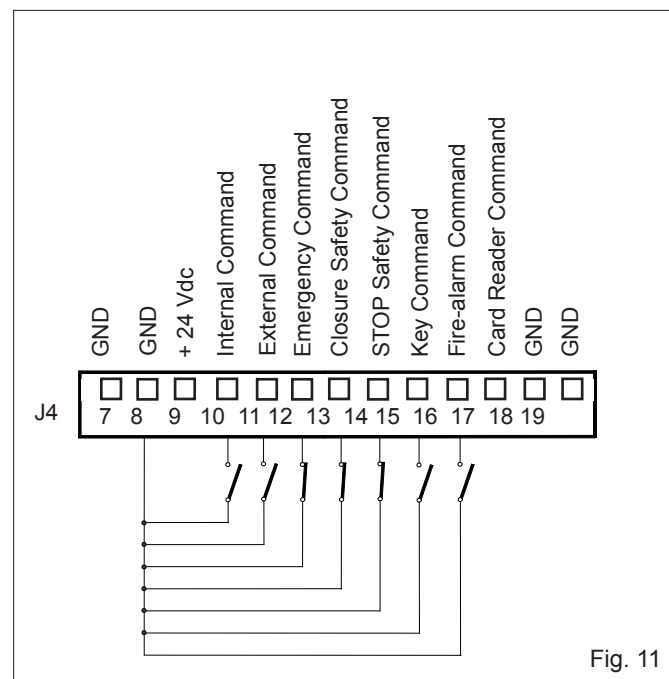

Fig. 11
**⑤ J4 TERMINAL BLOCK** Inputs Connection (figs. 11,12,16)
**NIGHT:** The external command is inactive. The door can be opened solely by activating the Key command (fig. 11) .